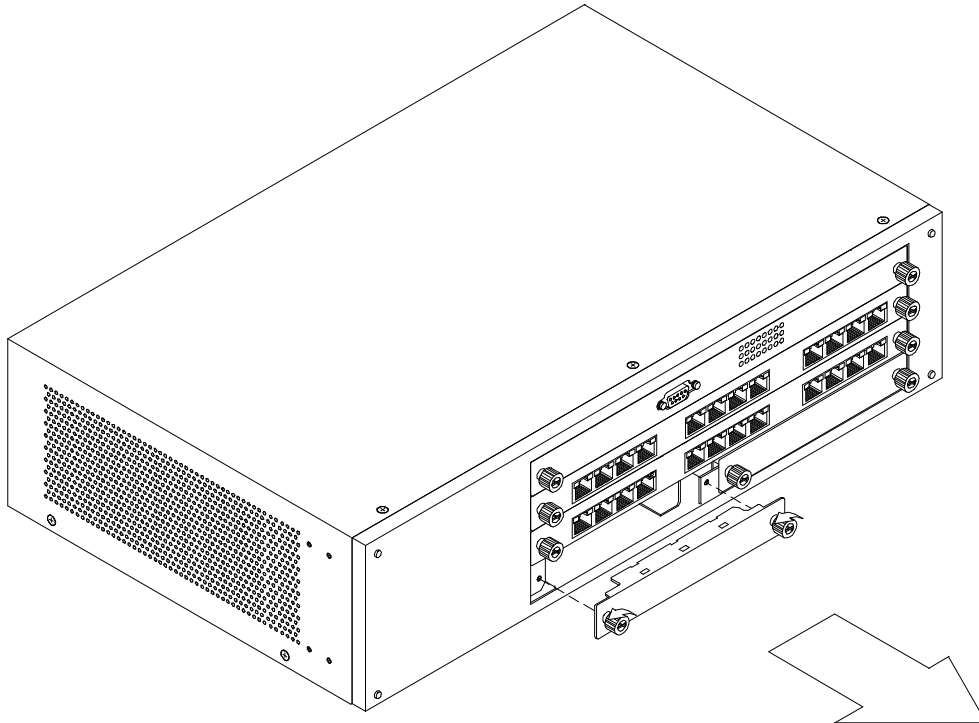

Figure 7: Remove Blank Bracket
You can purchase optional modules separately in order to meet the needs of your network. The two optional modules available for the DES-5024 are: a 2-Port 100BASE-FX (fiber optic) module and a 1-Port 1000BASE-SX (gigabit) module. As shown in Figure 7, optional modules can only be installed in Slot 3. Nothing can be installed in slot 4. The procedure for installing modules is the same for all both modules.
2. Remove the blank bracket, as shown in Figure 7, and set aside. Grasp the thumbscrews on the sides of the blank bracket and turn counterclockwise to unscrew them. You can also use a Phillips screwdriver to unscrew the blank bracket. Do not discard the blank bracket. Put the blank bracket back in if you remove the optional module.